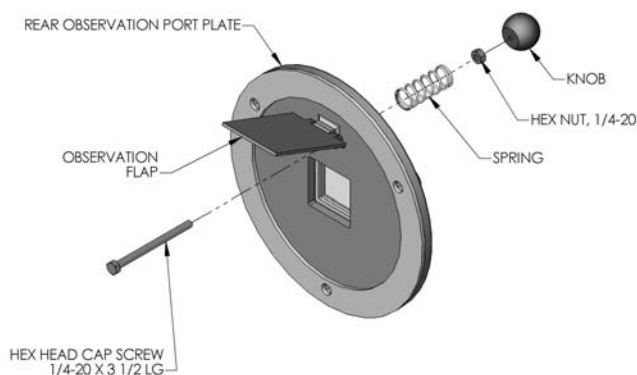

Figure 2.10: Rear Observation Port Assembly
1. Assemble Rear Observation Port as shown in Figure 2.10: